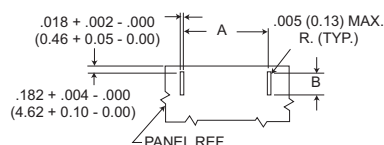

Figure 4
(see Figure 4)
3. Figure 4 is for edge board mounting bracket or edgeboard clip assembly. The .184 ± .002 (2.67 ± .05) dimension locates the MD socket insulator flush with the end of the board.